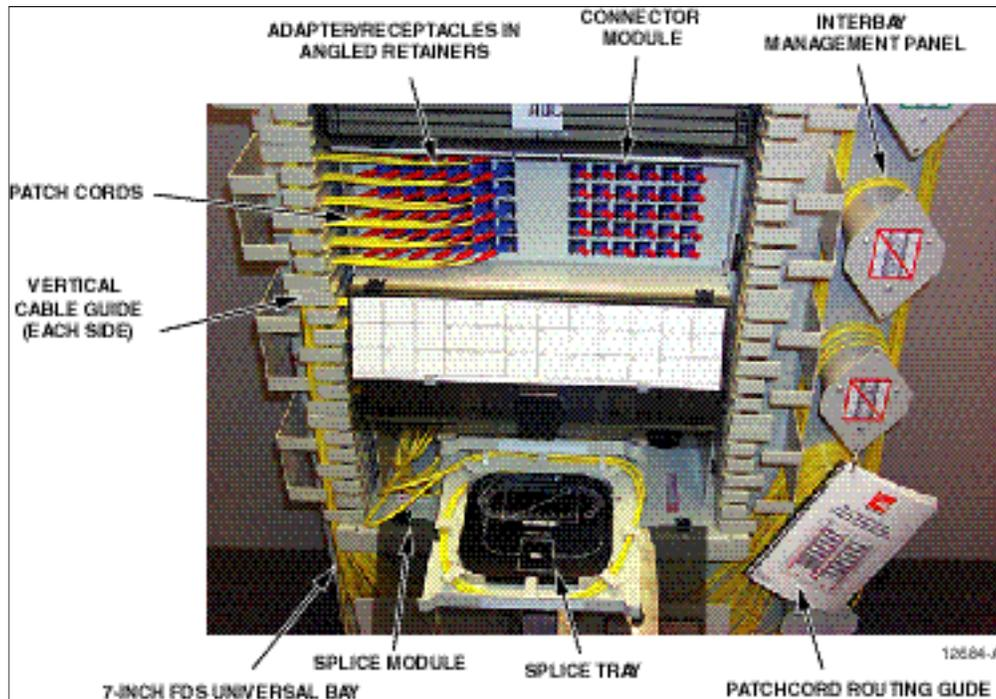

Figure 4-2. FDF Main Components
4.1.1 As shown in Figure 4-2, the network equipment rack provides the basic structure of the frame. It supports the fiber protection system and frame modules. The fiber protection system consists of fiber guides, radius limiters, clamps, and similar items used to secure and guide fibers and patch cords on the frame. The frame modules are function-specific chassis that mount on the frame in any of the nine predetermined locations utilizing 7-inch FDS modules. Based on function, frame modules can be divided into three types: splice, connector, and VAM chassis. A typical FDF lineup also includes related frame products used in some applications.